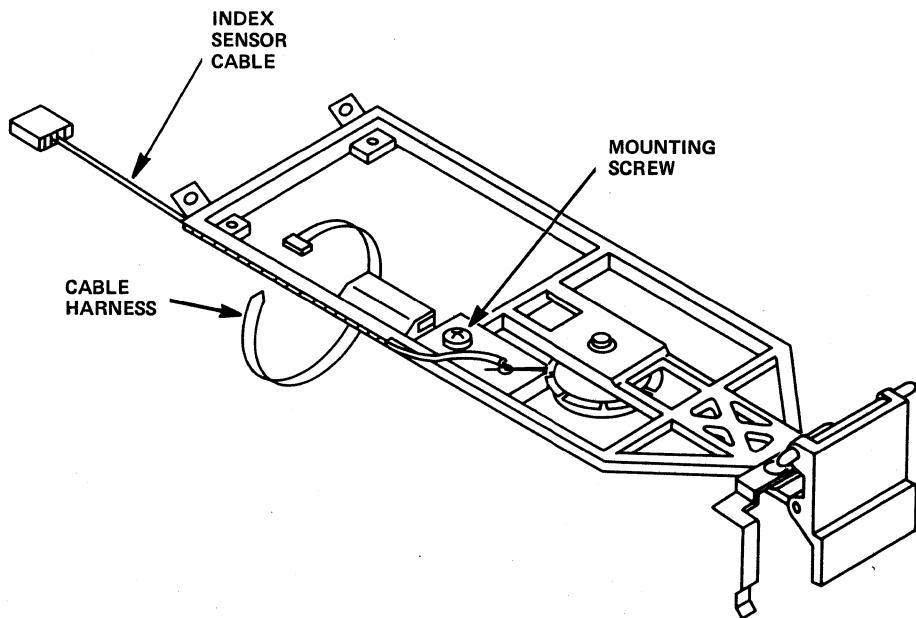

Figure 5-15
- 5.9.2 Remove the harness that attaches the index emitter sensor cable to the Cone Lever Assembly (see Figure 5-15).
- 5.9.12 After turning the disk drive upright, position all sensor cables (see Figures 5-15 and 5-17), and smooth them out.